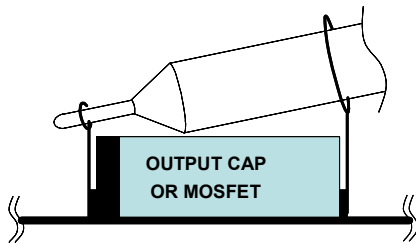

FIGURE 3. PROPER PROBE SETUP TO MEASURE OUTPUT RIPPLE AND PHASE NODE RINGING
5. Use an oscilloscope to observe output voltage ripple and phase node ringing. For accurate measurement, please refer to Figure 3 for proper test setup.